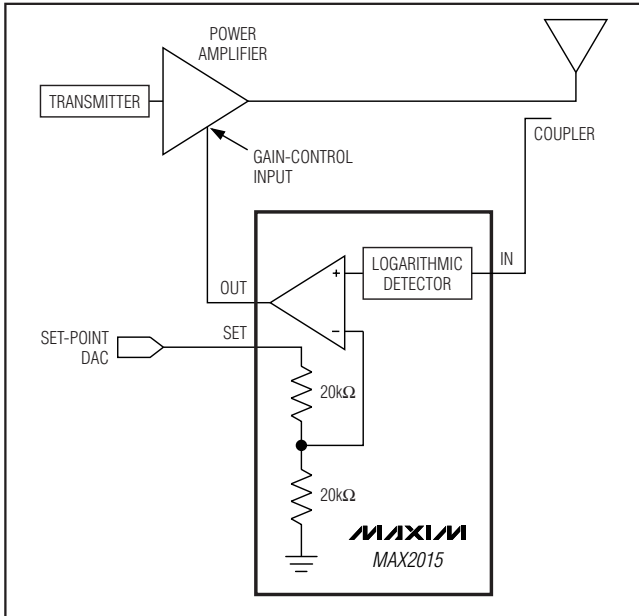

Figure 2. MAX2015 in Controller Mode
For operation in controller mode, remove R1 and set R6 to 0Ω . Use a DAC or external precision voltage supply to apply the set-point voltage to the VSET SMA connector. RF_IN is connected to the RF source (power amplifier (PA) output through a directional coupler) and VOUT is connected to the gain-control pin of the PA (see Figure 2).